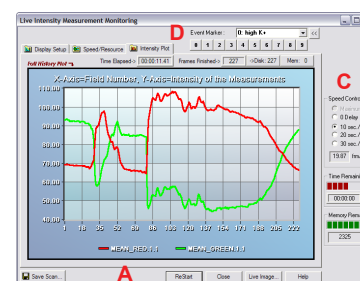

fig.6
17. Click **Intensity Plot** Tab to view graph (**fig.6**)
18. Click **Start** to begin image capture, measure and plot intensity over time (**fig.6**)